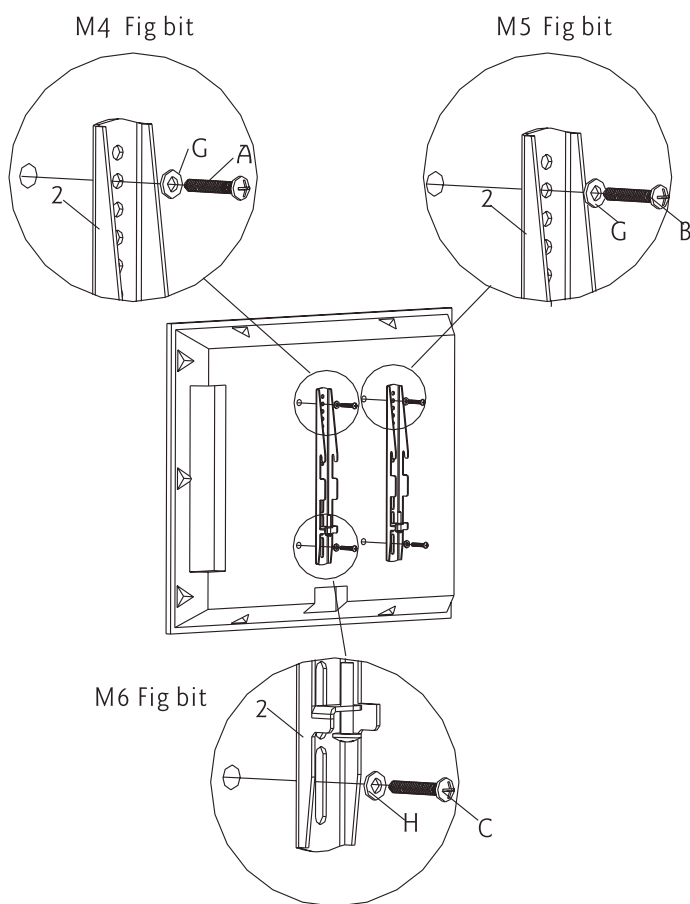

Fig 1a
1. Some displays have vertical backs. No spacer is required. Install the bracket directly to the back of display by using bolts and washers provided. As shown in Fig. 1a.